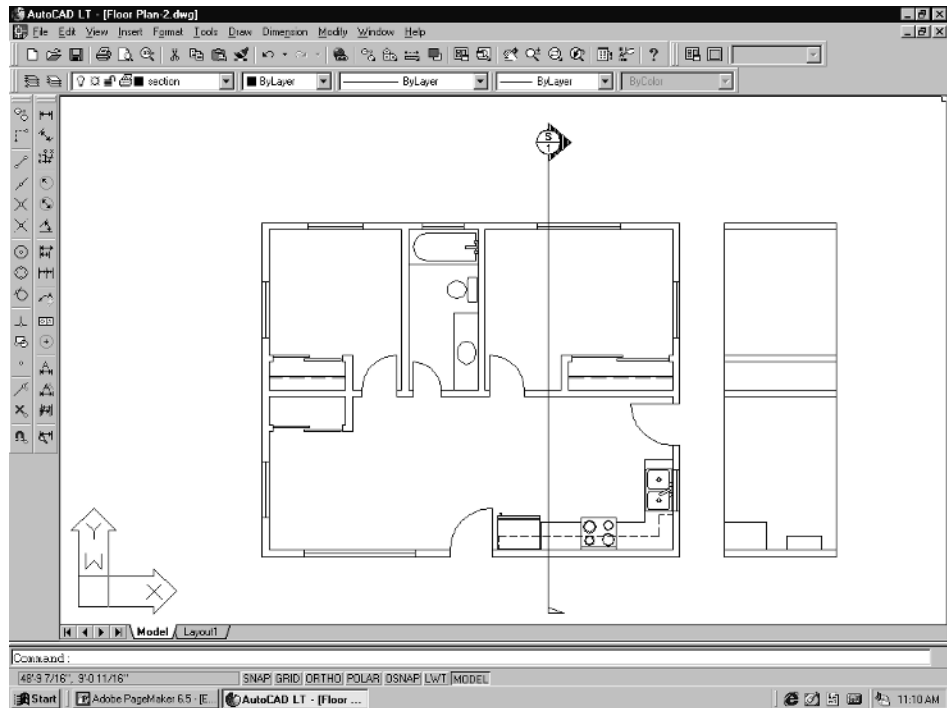

Figure 3-31
1. First, type **UCS** and **Enter**. Then, **Enter** once more to automatically change the drawing back to plan view as in Figure 3-31.